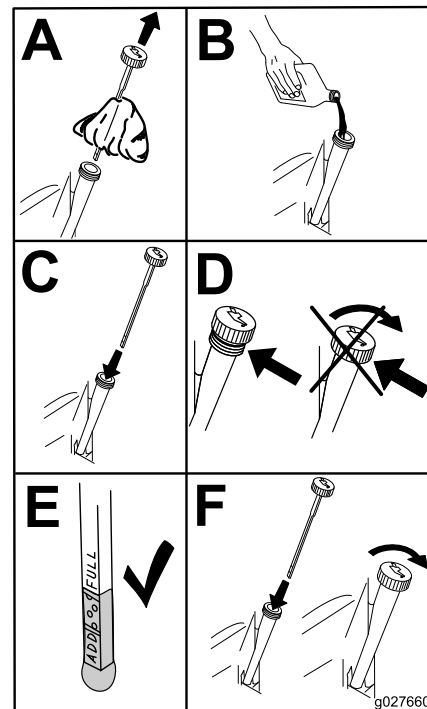

Figure 47
4. Slowly pour approximately 80% of the specified oil into the filler tube and slowly add the additional oil to bring it to the **Full** mark (Figure 47).